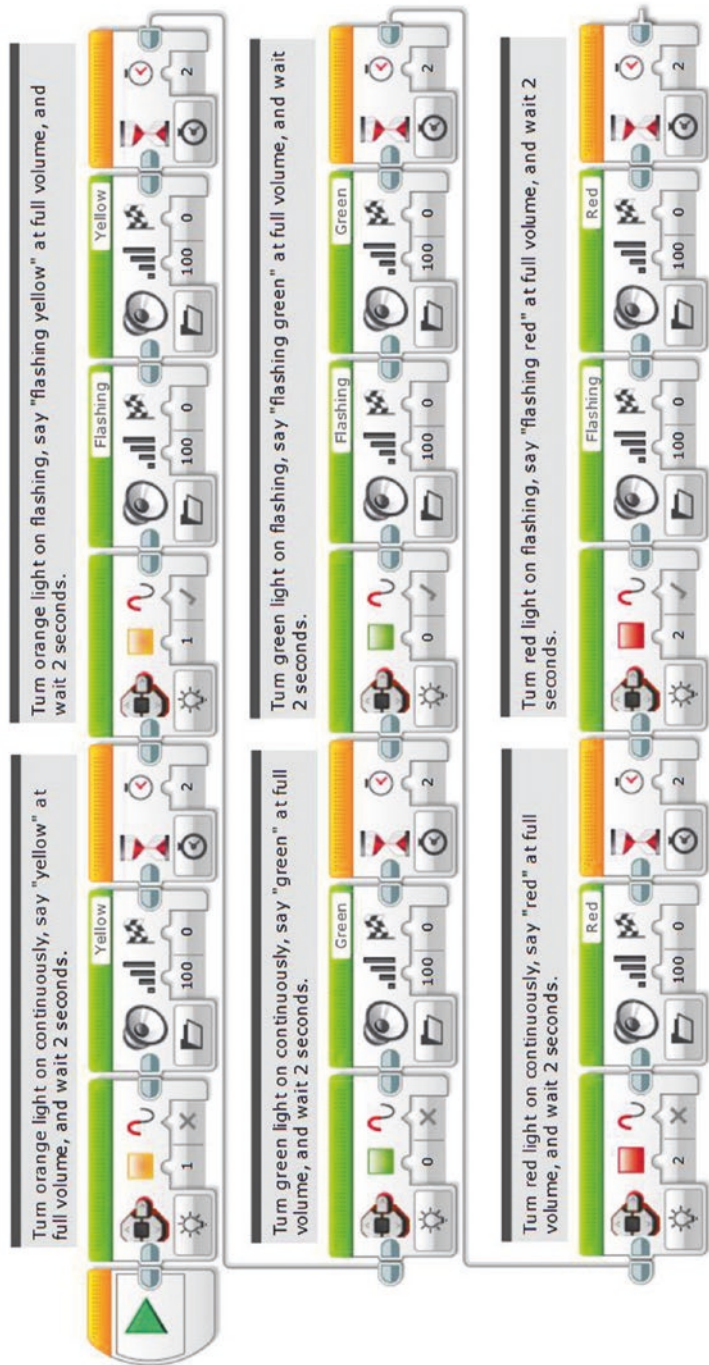

Figure 2-14. Complete LightsAndSounds program
Now make the following changes to the programming blocks in the second line: (1) Change both Brick Status Light colors to **0** (green), (2) change both Yellow Sound blocks to **Green**, and (3) replace “orange” and “yellow” in the comment blocks with “green”. Repeat the process for a third programming line, replacing “green” with “red” as shown in Figure 2-14. Run the program by clicking the **Download and Run** button. If interested, experiment with the different sounds, light options, and timing.